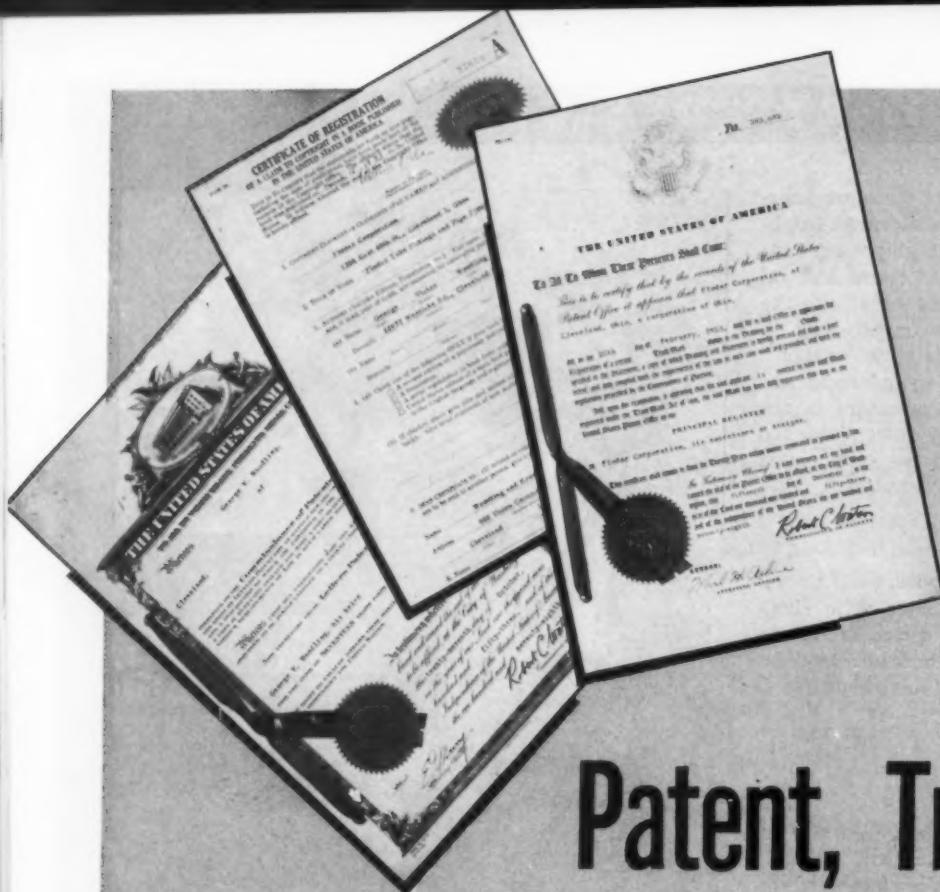

Fig. 1 — Documents certifying ownership of a patent, a trademark and a copyright
**P**ROTECTION of the property rights of inventors and others who create ideas or expressions of ideas is fundamental to our industrial growth. In recognition of this fact the law has characterized patents, trademarks and copyrights, Fig. 1, as industrial property, which is recognized as the source of our greatest wealth. The three categories of protection cover well defined areas, but differences between them are sometimes not too clearly understood. It is the purpose of this article to explain these distinctions, to outline the differences in procedures and "life," and to show how to tell quickly which form is appropriate to the job at hand.